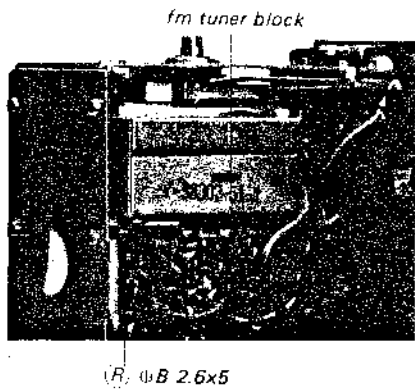

Fig. 2-15
4. Remove the screws (⊕B 2.6x5) marked (R) in Fig. 2-15.